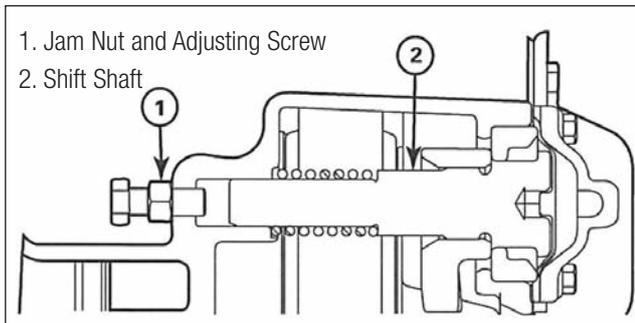

Fig. 2.124
3. Loosen the jam nut and adjusting screw until the screw does not touch the end of the shift shaft. Figure 2.124